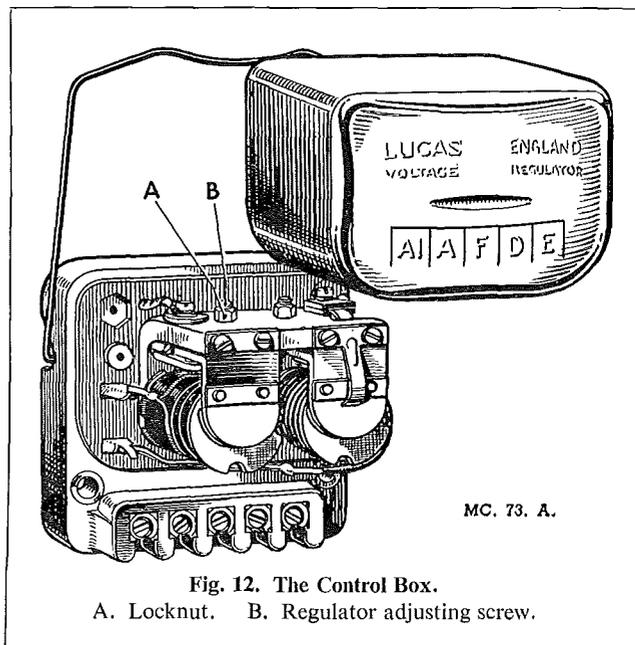

Fig. 12. The Control Box.
Shut off the engine, remove the control box cover, release the locknut (A) Fig. 12 holding the adjusting screw (B) and turn the screw in a clockwise direction to raise the setting or in an anti-clockwise direction to lower the setting. Turn the adjustment screw a fraction of a turn and then tighten the locknut.